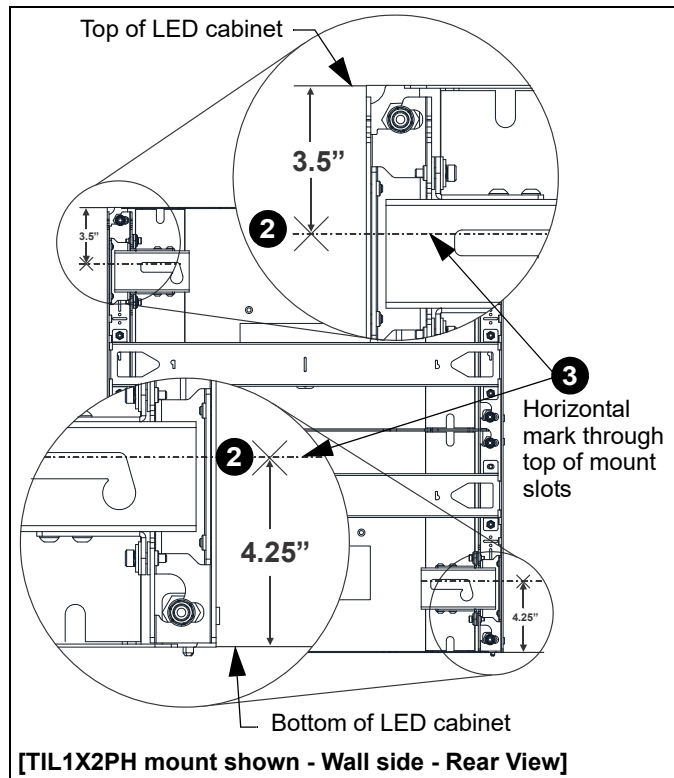

Figure 4
IMPORTANT ! : The top of the LED panel is 3.5" above the top of the **UPPER** mounting slots, and the bottom of the LED panel is 4.25" below the top of the **LOWER** mounting slots. (See Figure 4)
1. Determine top or bottom panel height location and horizontal placement of mounts. (See Figure 4)
2. Make a mark 3.5" **below** the planned top edge (or 4.25" **above** the planned lower edge) of the LED wall. (See Figure 4)
NOTE: This line will be located at the top of the mounting slots across the width of the LED video wall. The oversize mounting slots will allow some upward adjustment as needed. (See Figure 4)